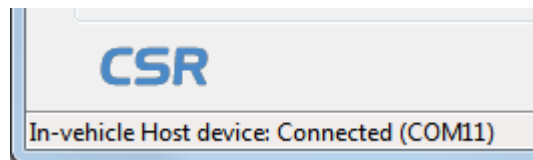

Figure 3.13: KES Demonstrator: Host Connection Status
2. On start-up, the KES Demonstrator application queries the available COM ports to identify and connect to the Host application. The status of the connection with the Host is displayed in the bottom left corner of the screen, see Figure 3.13.